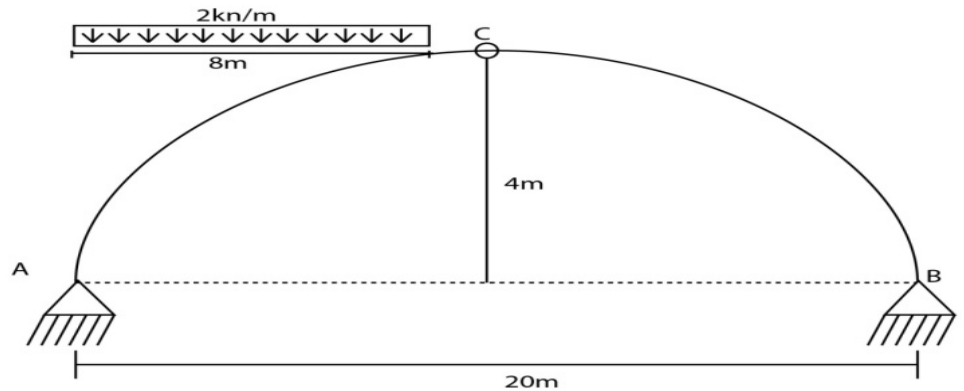

Figure 5
3. A parabolic arch hinged at the springing and crown has a span of 20m as shown in figure 5. The central rise of the arch is 4m. It is loaded with a uniformly distributed load of intensity 2 kN/m on the left 8m length. Calculate: